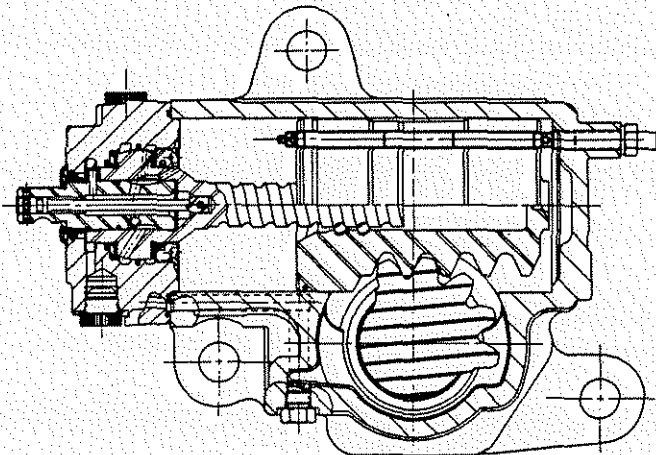

FIG 6. READJUST LOWER END POPPET
- i. Turn wheel in opposite direction to set the lower end poppet according to the procedures for HFB 70 above (fig 6).